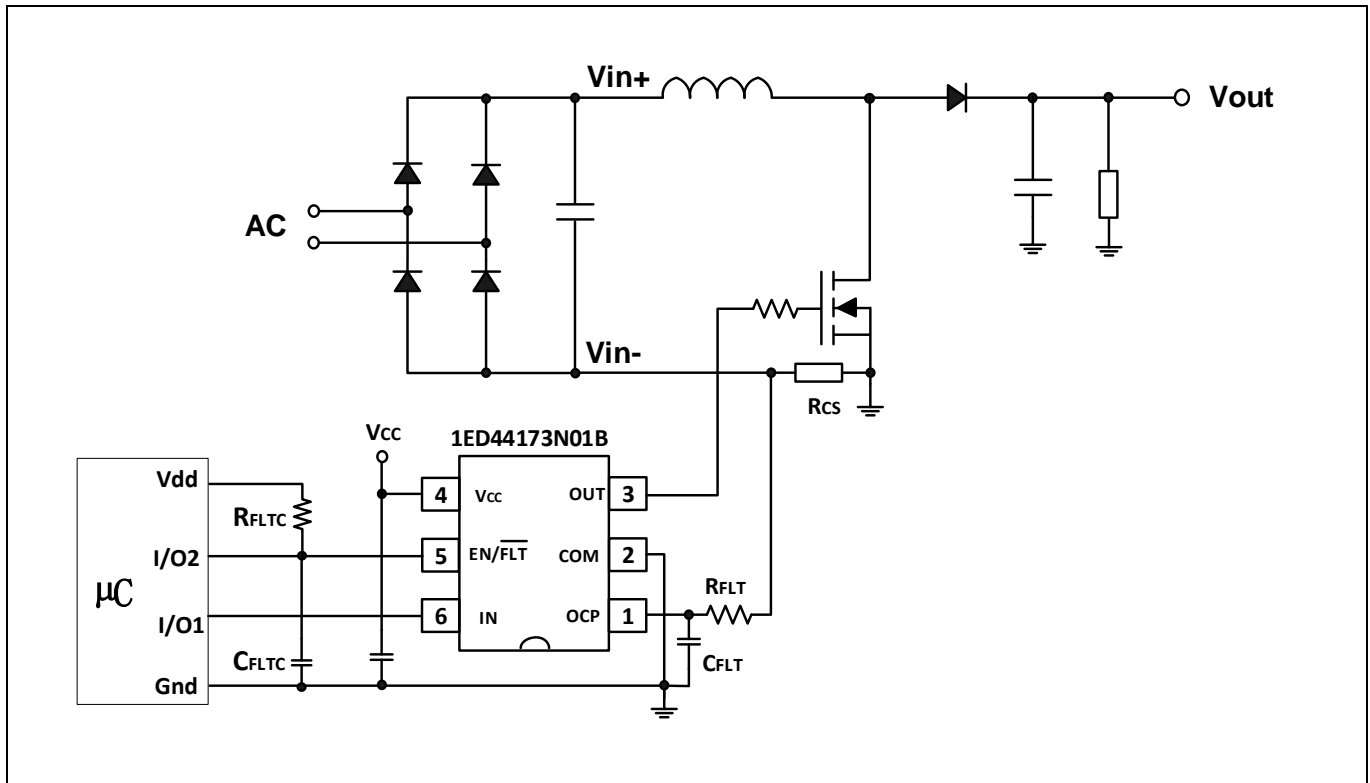
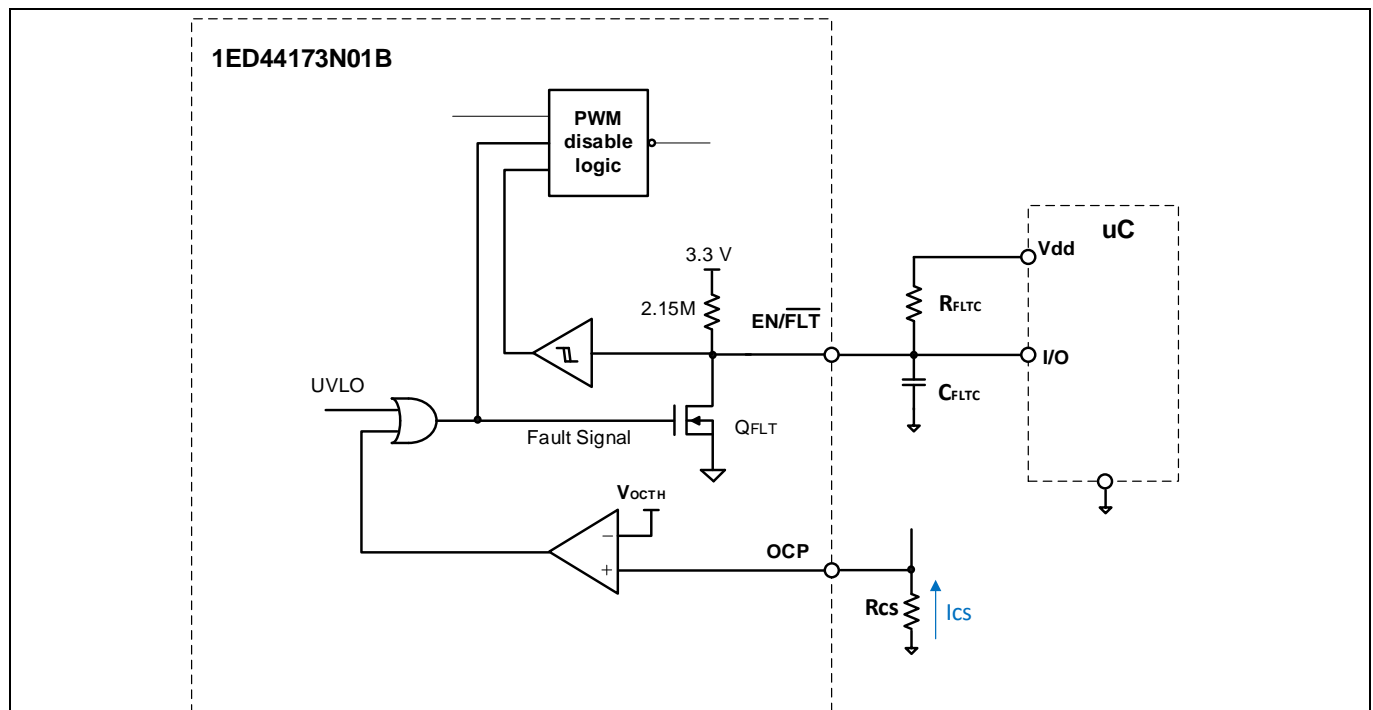

Figure 5 Application circuit example of active power factor correction (APFC) with R_{cs} for OCP
Figure 11 Diagram of the fault output circuit and fault clear time setup
- The R_{CS} should be connected between the pin of system ground and the input power return to detect short-circuit current (refer to Figure 5). An RC filter needs to be connected between the shunt resistor and the OCP pin if the internal blanking time is not sufficient to eliminate the noise.
Figure 5 shows a typical application circuit of 1ED44173N01B for the interface schematic with control signals connected directly to a XMC™ μ C.
The length of the fault clear time period (t_{FLTC}) is determined by exponential charging characteristics of the capacitor where the time constant is set by R_{FLTC} and C_{FLTC} . Figure 11 and Figure 5 show that R_{FLTC} is connected between the external supply ($V_{dd} = 3.3 \text{ V}$) and the EN/ $\overline{\text{FLT}}$ pin, while C_{FLTC} is placed between the EN/ $\overline{\text{FLT}}$ and COM pins. Actually the EN/ $\overline{\text{FLT}}$ pin is pulled up to 3.3 V with a 2.15 M Ω pull-up resistor internally.